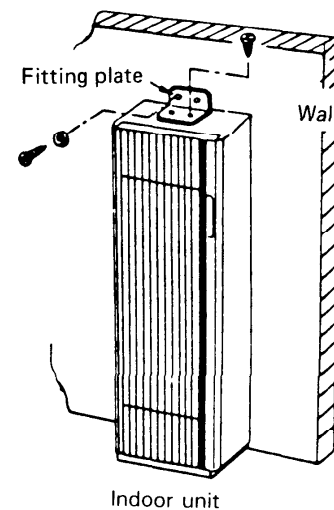

Fig. 6
a) Using the accessory fitting plate, secure the unit firmly with the wall. Fig. 6.